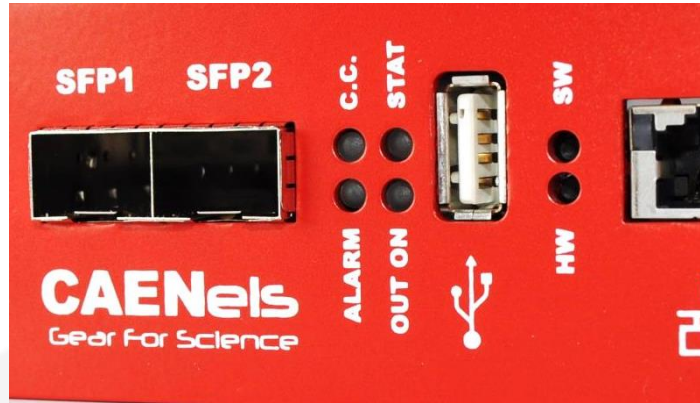

Figure 11: front panel indicators
The REGUL8OR has four (4) front panel LED indicators as shown in the following **Figure 11**.